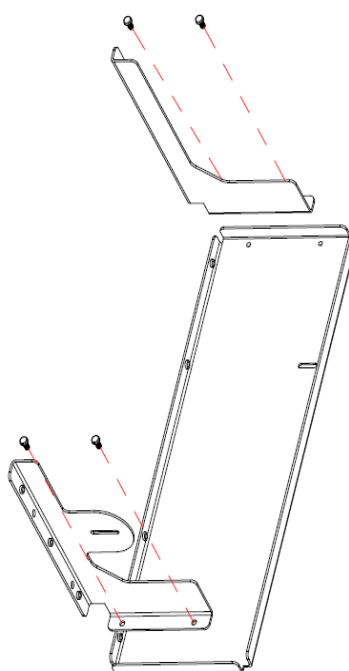

Figure 1
1、安装五金左、右板：五金左、右板对准五金底板的孔，用 4pcs M4*10 的螺钉将其固定，见图 1；
Install the left and right plates of hardware: the left and right plates of hardware are aligned with the holes of the hardware base plate and fixed with 4pcs M4*10 screw, as shown in Figure 1;